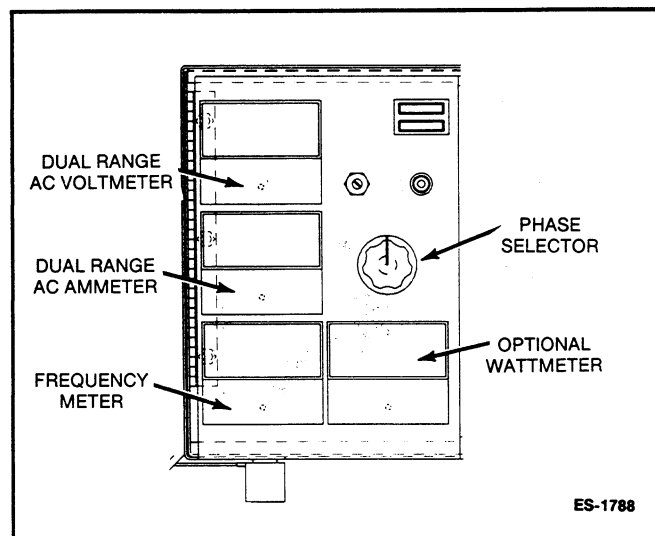

FIGURE 4-2. AC ELECTRICAL CHECKS
**Frequency Meter:** The generator frequency should be stable and the reading should be the same as the data tag rating (50 or 60 Hz). See Figure 4-2.
**AC Voltmeter:** Turn the phase selector switch to each line-to-line phase selection shown on the volts scale (L1-L2 on single phase sets; L1-L2, L2-L3, and L3-L1 on three phase sets). Read the AC voltmeter using the upper or lower scale as indicated by the scale indicator light. The line-to-line voltage(s) should be the same as the set data tag rating (see Figure 4-2).
**AC Ammeter:** Turn the phase selector switch to each phase selection shown on the amp scale (L1 and L2 on single phase sets; L1, L2 and L3 on three phase sets). Read the ammeter using the upper or lower scale as indicated by the scale indicator light. At no-load, the current readings should be zero. With a load applied, each line current should be about the same (See Figure 4-2).